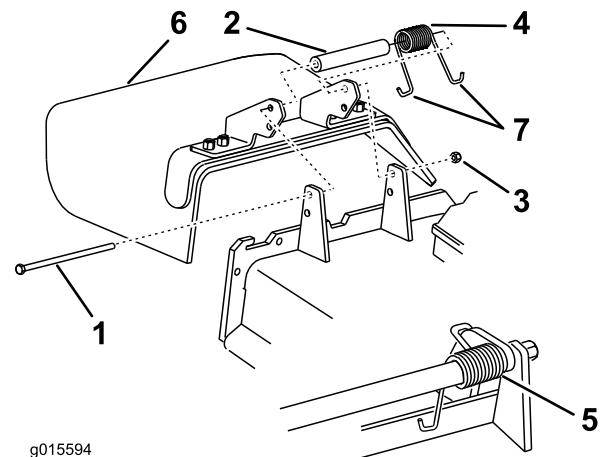

Figure 107
1. Remove the locknut, bolt, spring and spacer holding the deflector to the pivot brackets (Figure 107). Remove damaged or worn grass deflector.
**Note:** Make sure one J end of spring is installed behind deck edge before installing the bolt as shown in Figure 107.
3. Install bolt and nut. Place one J hook end of spring around grass deflector (Figure 107).